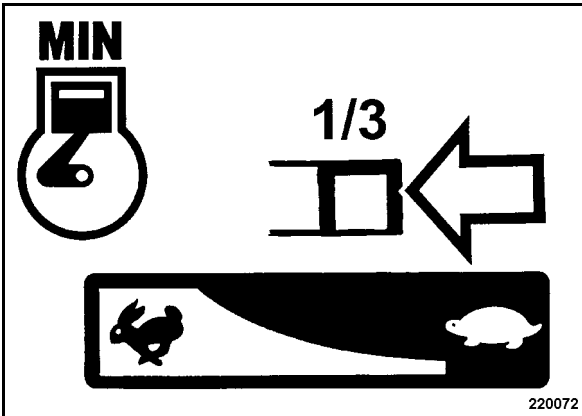

Fig. 13
- Set the throttle lever (Fig. 13) to 1/3 throttle position.